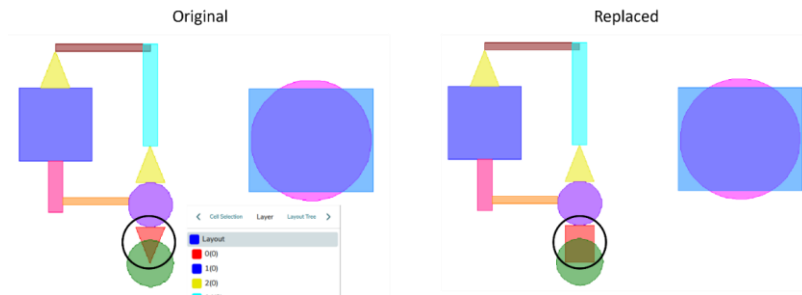

Figure 13. (Left) Layout marking a triangle in layer 0(0) and (Right) replacing layer 0(0) for a bounding box.
The 'Replace Settings' allows choosing among all the available layers, by using the layers checkboxes, in the layout to replace them with a 'Bounding Box'. For instance, the layer 0(0) which corresponds to a triangle and is marked with a black circle, is replaced with a bounding box in Fig. 13.